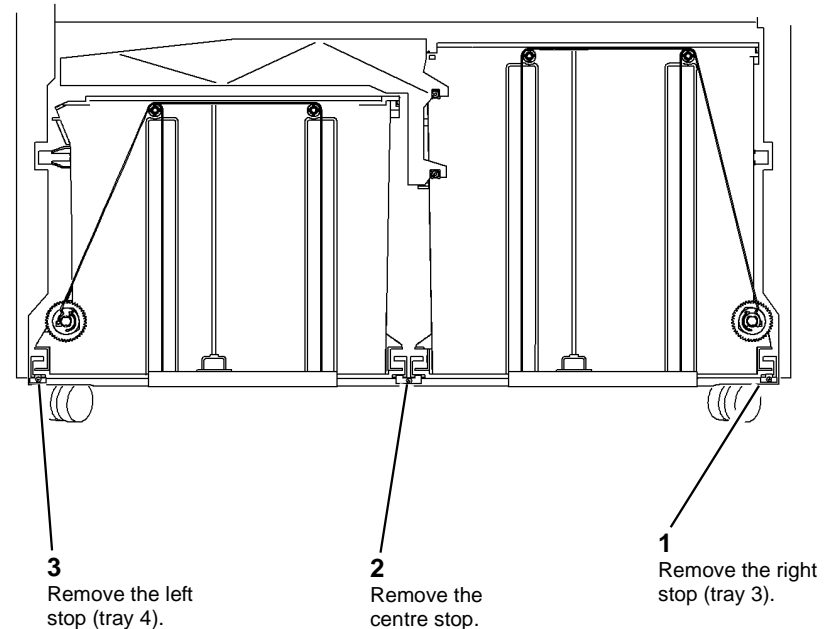

Figure 2 Rail stops removal
4. Remove the stops, Figure 2.